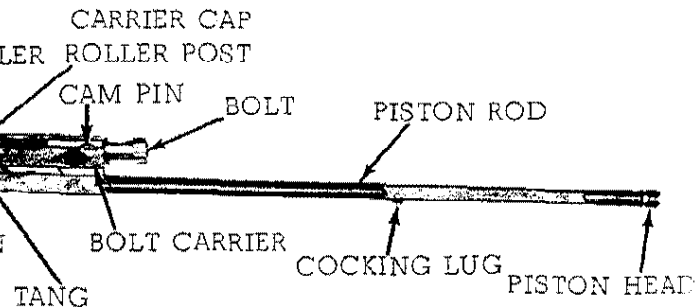

FIGURE 20. CARRIER, PISTON, AND BOLT ASSEMBLY
(1) Push down on the base of the firing pin, (figure 20) until it is flush with the back of the carrier cap assembly.